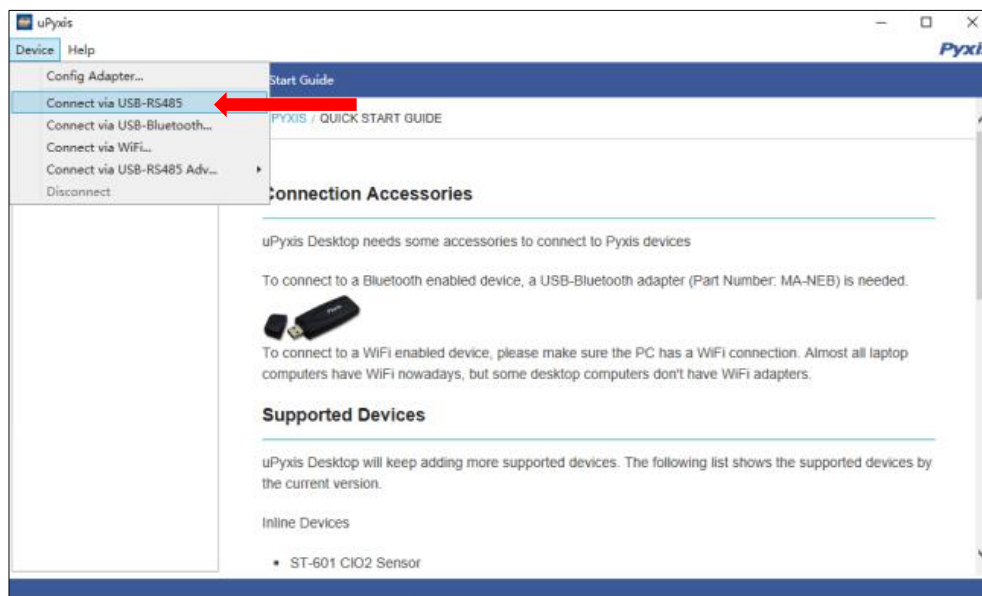

Figure 30. - Connect to RT-50 via USB-RS485 option
- 6) Select Connect via USB-RS485 (Figure 30).